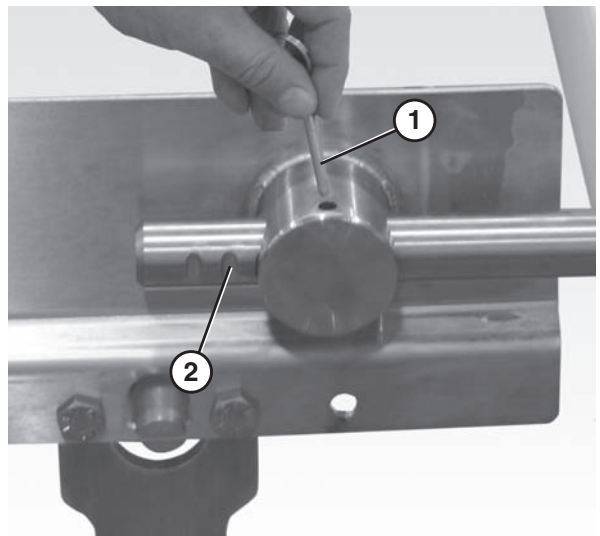

Figure 64
1. Remove both pull pins (Figure 64, item 1) on the tension end of the conveyor.
2. Extend the idler tail to the next groove (Figure 64, item 2) on the bearing shaft.